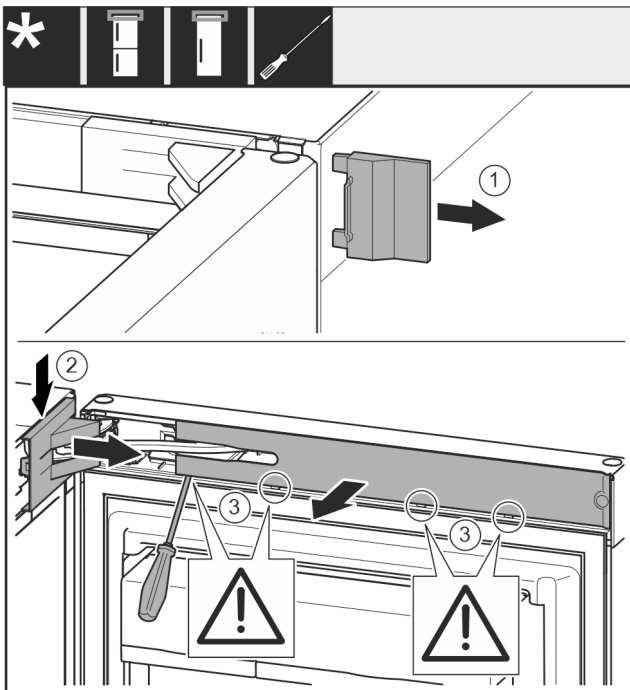

Fig. 7
- ▶ Remove the cover Fig. 7 (1).
- ▶ Snap out the swap bearing block cover Fig. 7 (2) and loosen it.
- ▶ Take off the swap bearing block cover Fig. 7 (2).
- ▶ Use a slotted screwdriver to snap out the faceplate Fig. 7 (3) and swivel it to the side.